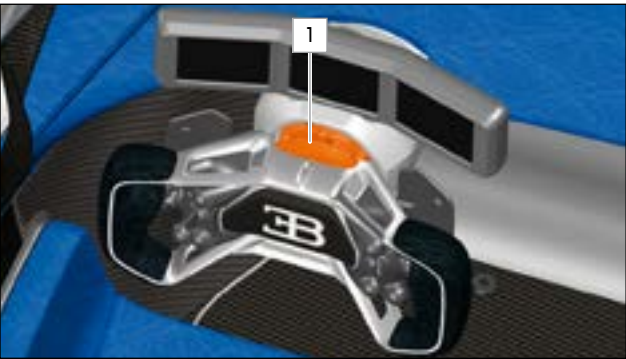

FIG.56 STEERING WHEEL QUICK RELEASE
To make it easier to get in and out, the steering wheel can be removed using a quick-release fastener 1 (» Fig.56).
- ▶ Pull the ring of the yellow quick-release fastener 1 (» Fig.56) towards you and remove steering wheel from the steering column.
- ▶ To refit the steering wheel, pull the ring of the yellow quick-release fastener 1 (» Fig.56) and align the steering wheel with the main toothing of the steering column. Slide the steering wheel onto the steering column and release the collar.